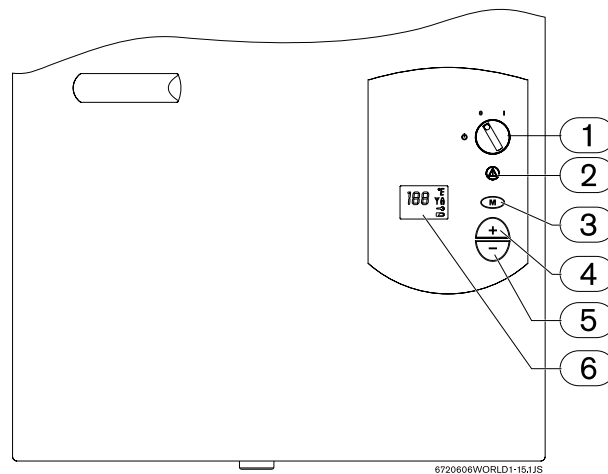

Fig. 29
ON/OFF switch in OFF position (Fig. 29, pos. 1).
- Press and hold  key (Fig. 29, pos. 5) while at the same time turn the main switch (Fig. 29, pos. 1) to "ON" position (I).
- Switch ON/OFF switch (Fig. 29, pos. 1) to "OFF" position (0) and then back on (I).
- Press "Program" key (Fig. 29, pos. 3) for 3 seconds.